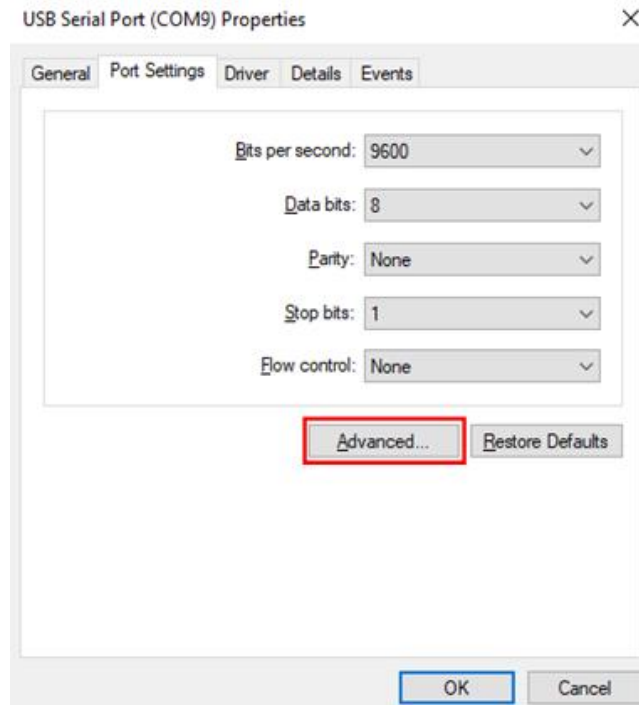

Fig.3.37
7)Then select 'Advanced' (Fig.3.37).